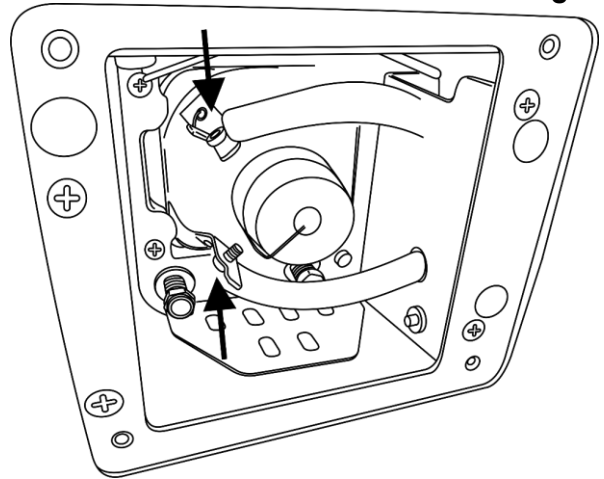

Fig. 06
- 05) Loosen the screws and remove the lamp (fig. 06).
- 07) Insert the new lamp into the housing and tighten the screws (fig. 06).